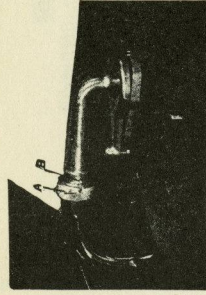
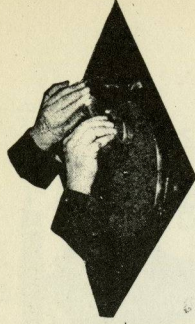

Fig. 3
Fig. 4
- (b) See that the slot in the Reproducer locking ring (A, Fig. 3) is in line with the corresponding slot in the end of the horn.
- (c) Hold the Reproducer locking ring firmly with the left hand as shown in Fig. 4, push Reproducer into its socket with the right hand so that the locking pin (B, Fig. 3) and Reproducer enters the two slots before mentioned.
- (d) Lock Reproducer in place by turning Reproducer locking ring (A) to left until it binds tightly.